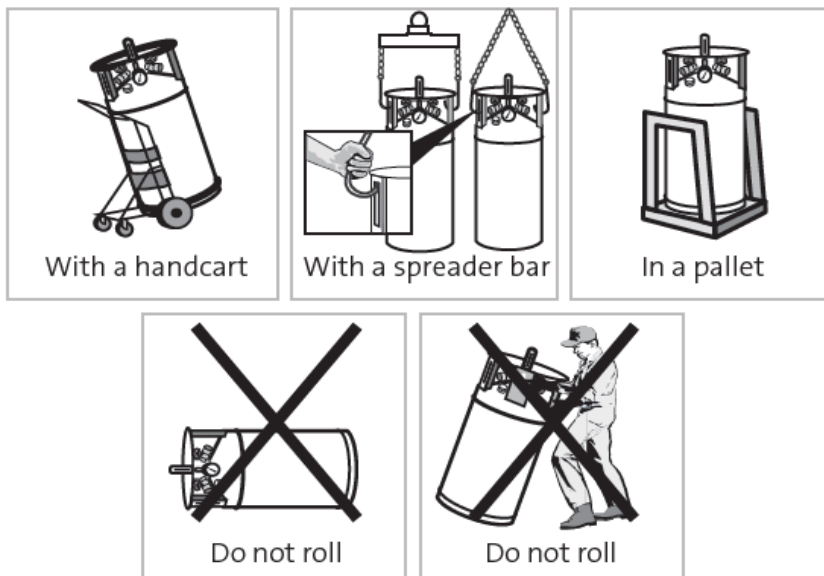

FIGURE 1. HOW TO HANDLE LIQUID CONTAINERS
7.5.1.2 Liquid containers should only be transported in an upright position and should never be laid on their side. For proper ways to handle a liquid container is as given in **Fig 1**. Never roll these containers on their side. Liquid containers equipped with wheels should always be moved by pushing the container, never pulling it. This reduces the possibility of the container falling on co-worker in the event it becomes unstable. Pushing the liquid container up any type of grade will increase the force necessary to move it. A grade as low as 5 percent (5-inch rise in 10 feet of travel) will increase the force necessary to start to push the container by as much as 50 percent.